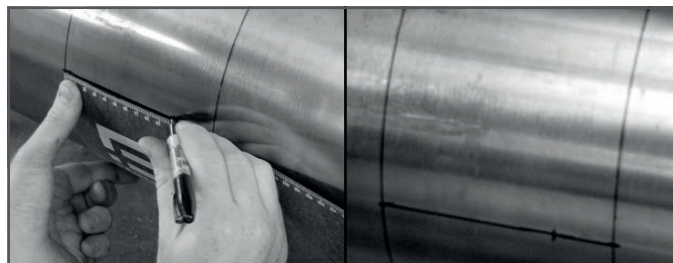

Figure 24: Marking the 9 o'Clock Position
4. To find the coinciding point on the opposite site of the pipe (180° away from each other), divide the measured circumference by 2 and measure this distance along the circumferential lines from the zero point, as shown in *Figure 24*. Place marks on both sides of the circumferential lines made with the layout tape and connect the marks.